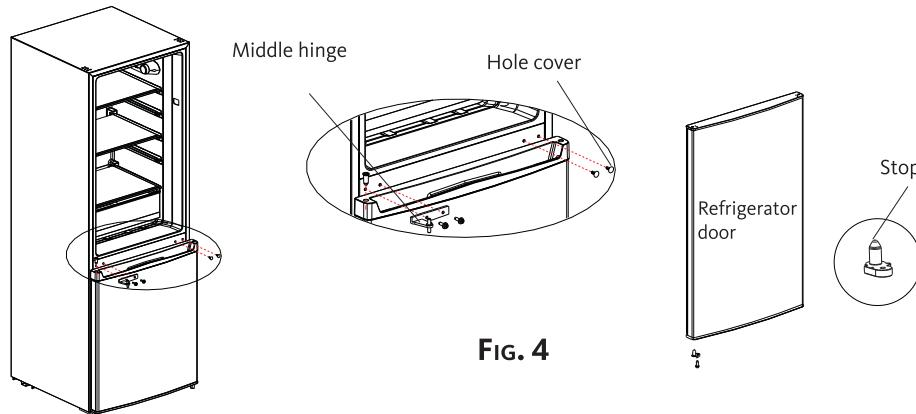

FIG. 4
- Put the freezer compartment door back on by pressing it against the appliance. Put the middle hinge and the hole covers back on (fig. 4). Be sure to align the door with the
appliance. Remove the stop under the refrigerator compartment door (fig. 4) and fit the stop provided in the accessory bag on the other side.